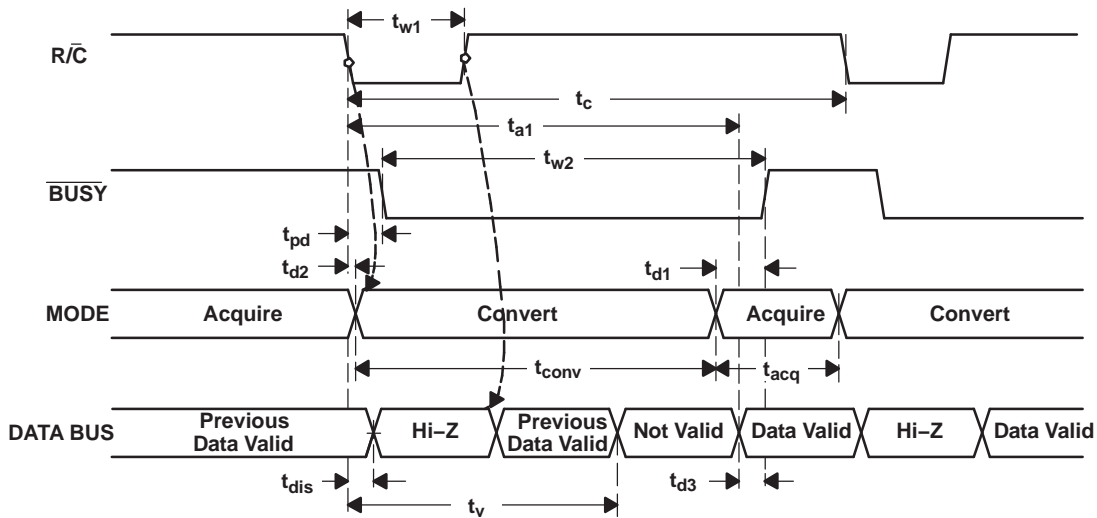
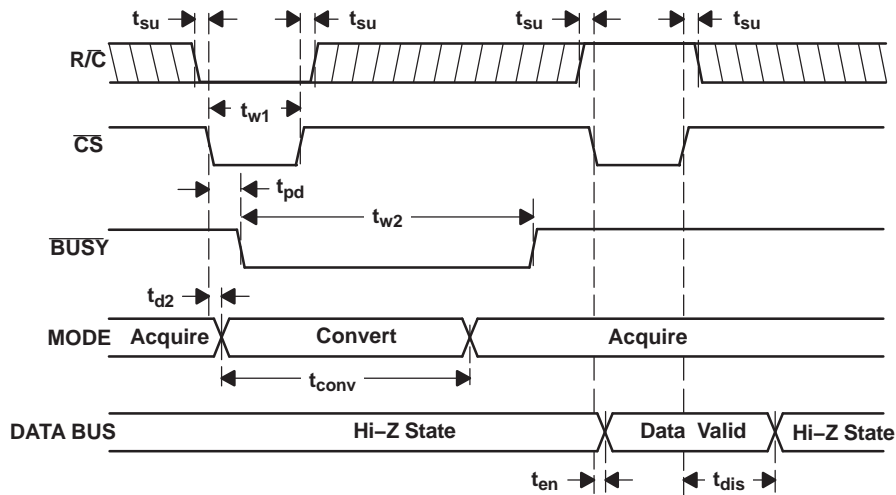
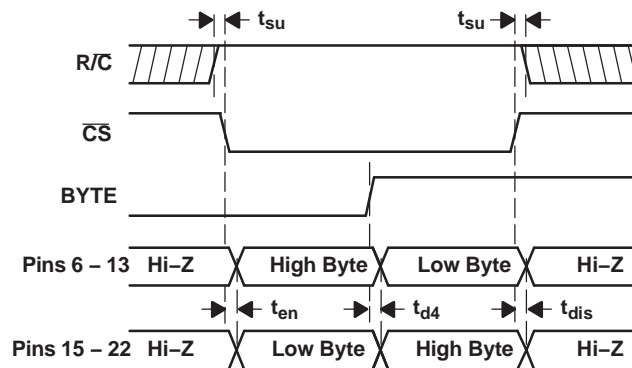

Figure 21. Conversion Timing with Outputs Enabled after Conversion (\overline{CS} Tied Low)
Figure 22. Using \overline{CS} to Control Conversion and Read Timing
Figure 23. Using \overline{CS} and **BYTE** to Control Data Bus
The ADS8515 begins tracking the input signal at the end of the conversion. Allowing 4 μ s between convert commands assures accurate acquisition of a new signal. Refer to Table 1 for a summary of \overline{CS} , R/\overline{C} , and $BUSY$ states and Figure 21, Figure 22, and Figure 23 for the timing diagrams.
(1) See Figure 21 and Figure 22 for constraints on data valid from conversion $n - 1$.
After conversion n is completed and the output registers have been updated, $\overline{\text{BUSY}}$ (pin 26) goes high. Valid data from conversion n are available on D15 to D0 (pins 6 to 13 and 15 to 22). $\overline{\text{BUSY}}$ going high can be used to latch the data. Refer to Table 3 and Figure 21, Figure 22, and Figure 23 for timing specifications.
After conversion n has been initiated, valid data from conversion -1 can be read and are valid up to t_2 after the start of conversion n . Do not attempt to read data from t_2 after the start of conversion n until $\overline{\text{BUSY}}$ (pin 26) goes high; this may result in reading invalid data. Refer to Table 3 and Figure 21, Figure 22, and Figure 23 for timing specifications.
The number of control lines can be reduced by tying $\overline{\text{CS}}$ low while using the falling edge of $\overline{\text{R}/\overline{\text{C}}}$ to initiate conversions and the rising edge of $\overline{\text{R}/\overline{\text{C}}}$ to activate the output mode of the converter. See Figure 21.